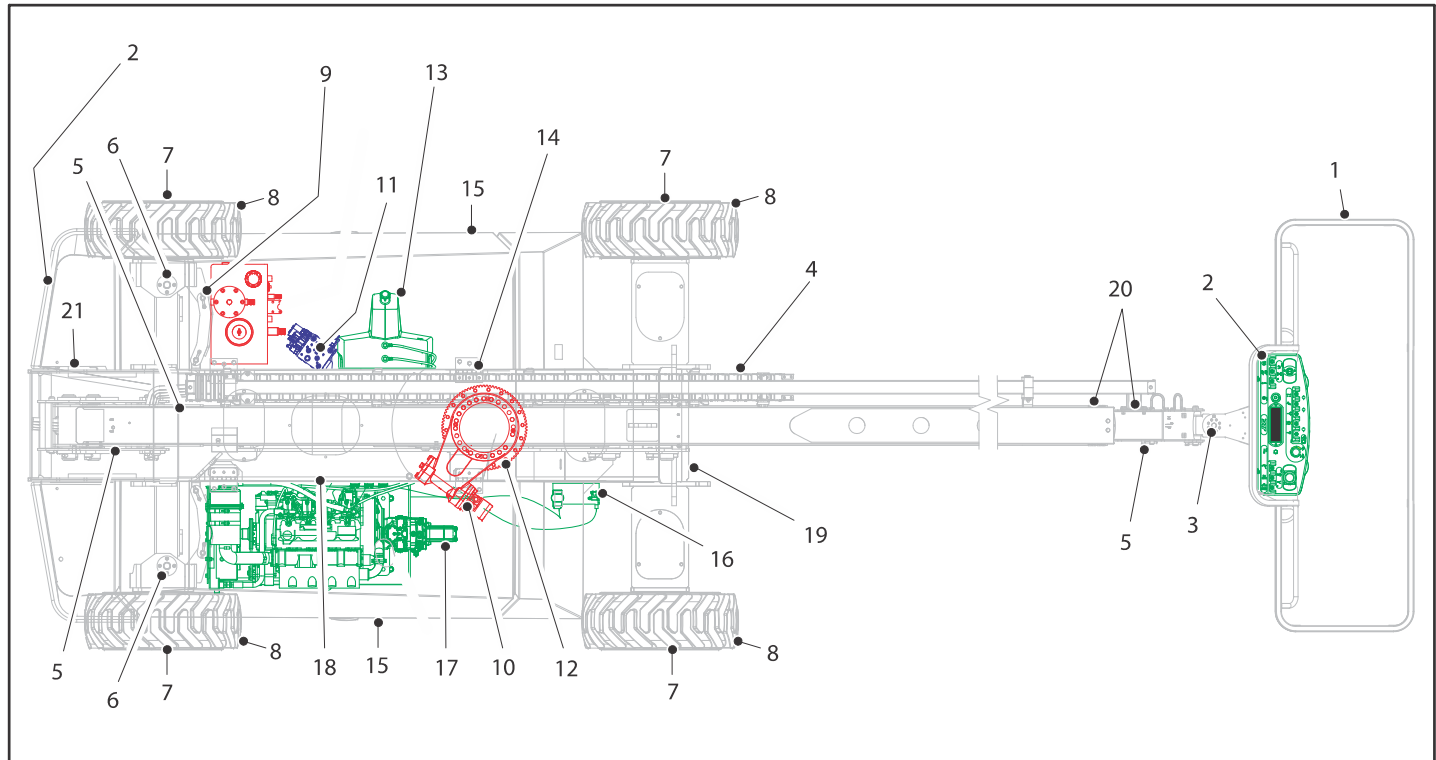

Figure 2-2. Daily Walk-Around Inspection Diagram
5. **“Walk-Around” Inspection** – Refer to Figure 2-2. thru Figure 2-4.